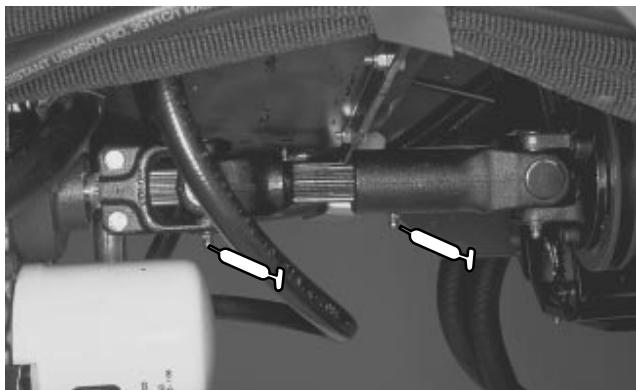
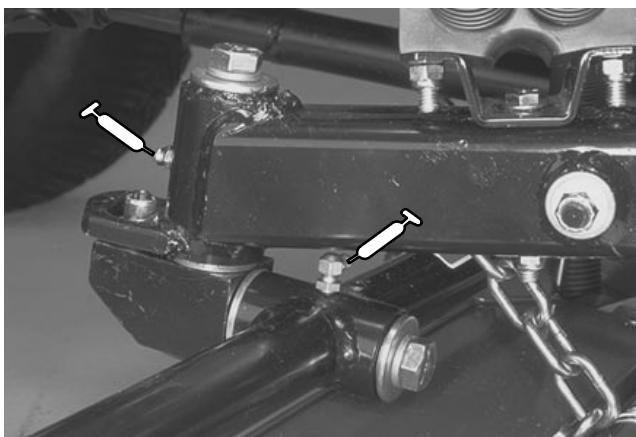
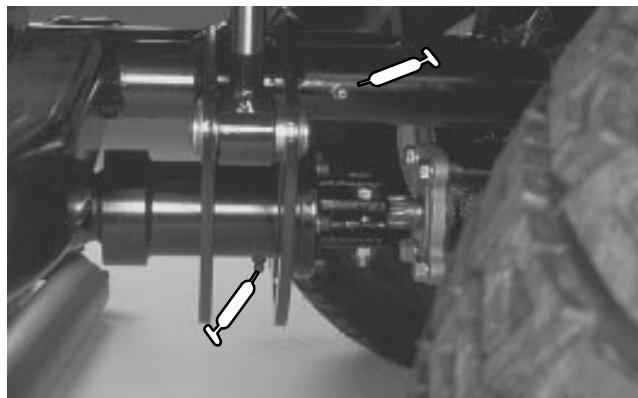
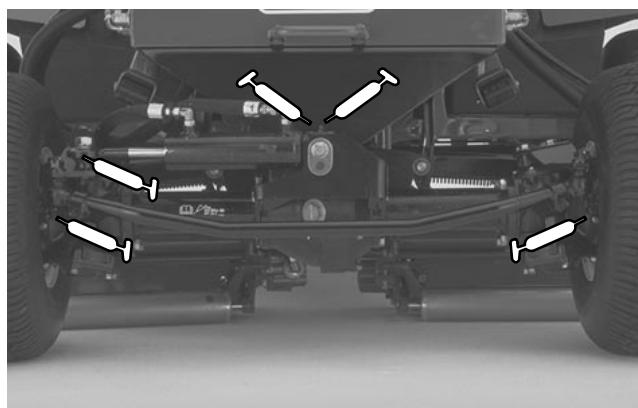

Figure 39
Figure 40
Figure 41
Figure 42
(Fig. 39 – 46)
1. The grease fitting locations and quantities are: Engine Drive shaft (3), (Fig. 39); Cutting unit carrier frame and pivot (2 ea.), (Fig. 40); Lift arm pivots (5), Drive shaft clutch (1) (Fig. 41); Rear axle tie rod (2), Steering cylinder ball joints (2), Rear axle pivot (1) (Fig. 42); Traction control linkage at transmission (1), Drive shaft support bearing (1), Rear axle drive shaft (3) (Fig. 43); Brake pedal (1) (Fig. 44); Lift cylinders (5) (Fig. 45) and Fan shaft (Fig. 46).